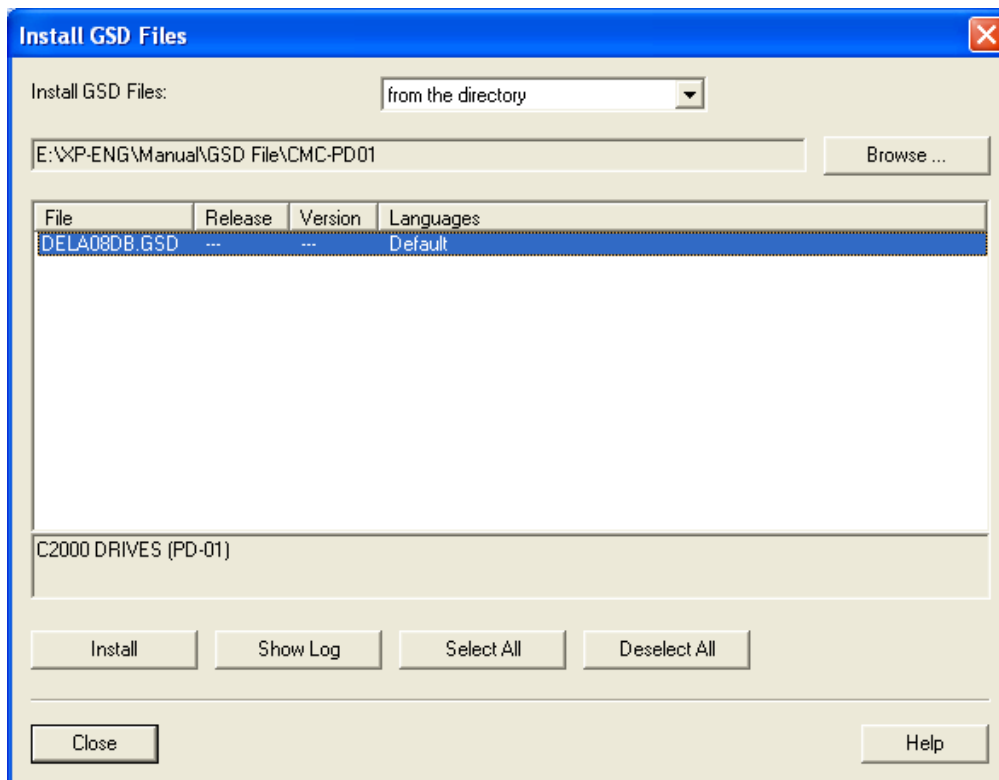

Figure 7-18
2. Find the path of the GSD file, select it and click “Open” to add the GSD file needed. See Figure 7-18.